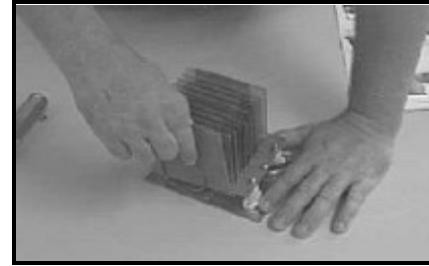

Figure 5
2. Grip generator plate just above retainer clip and gently lift plate up approx. 3/4 of the way, then re grip generator plate just above retainer clip to ensure that plates do not spread and fall apart upon removal. **(SEE FIG. 5+6)**.